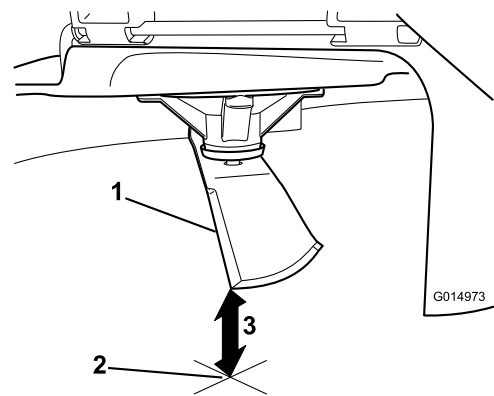

Figure 54
3. Measure from the tip of the blade to the flat surface (Figure 54).